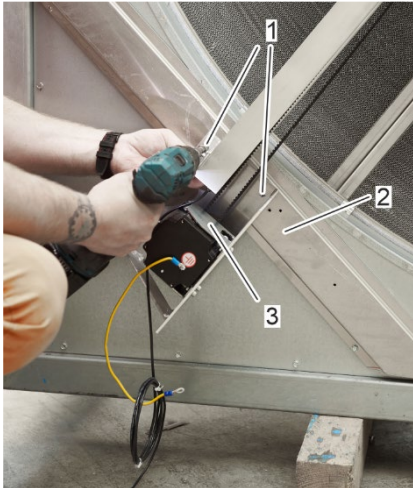

Fig. 35: Fasten the motor-side end of the cleaning rail to the crossbeam
19. Fasten the motor-side end of the cleaning rail (Fig. 35/3) to the cross beam (Fig. 35/2) with self-tapping screws (Fig. 35/1).